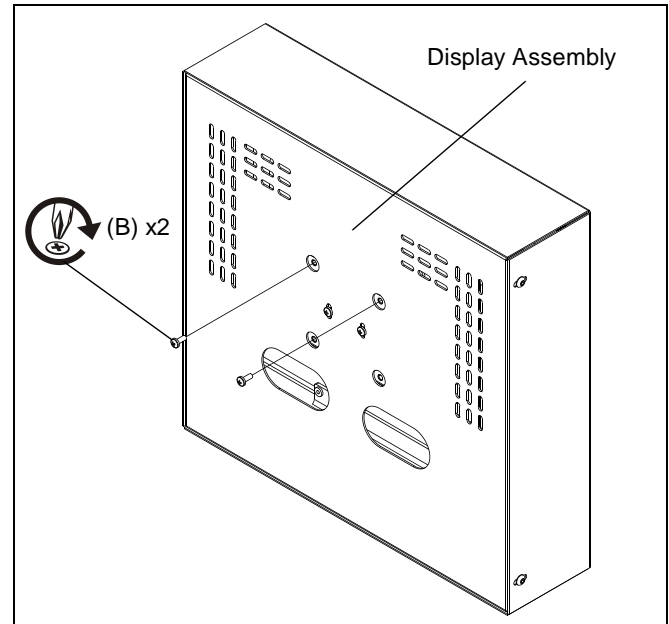

Figure 7
4. Install two M4 x 10mm Phillips head cap screws (B) into two TOP mounting holes in back of display assembly. (See Figure 7)